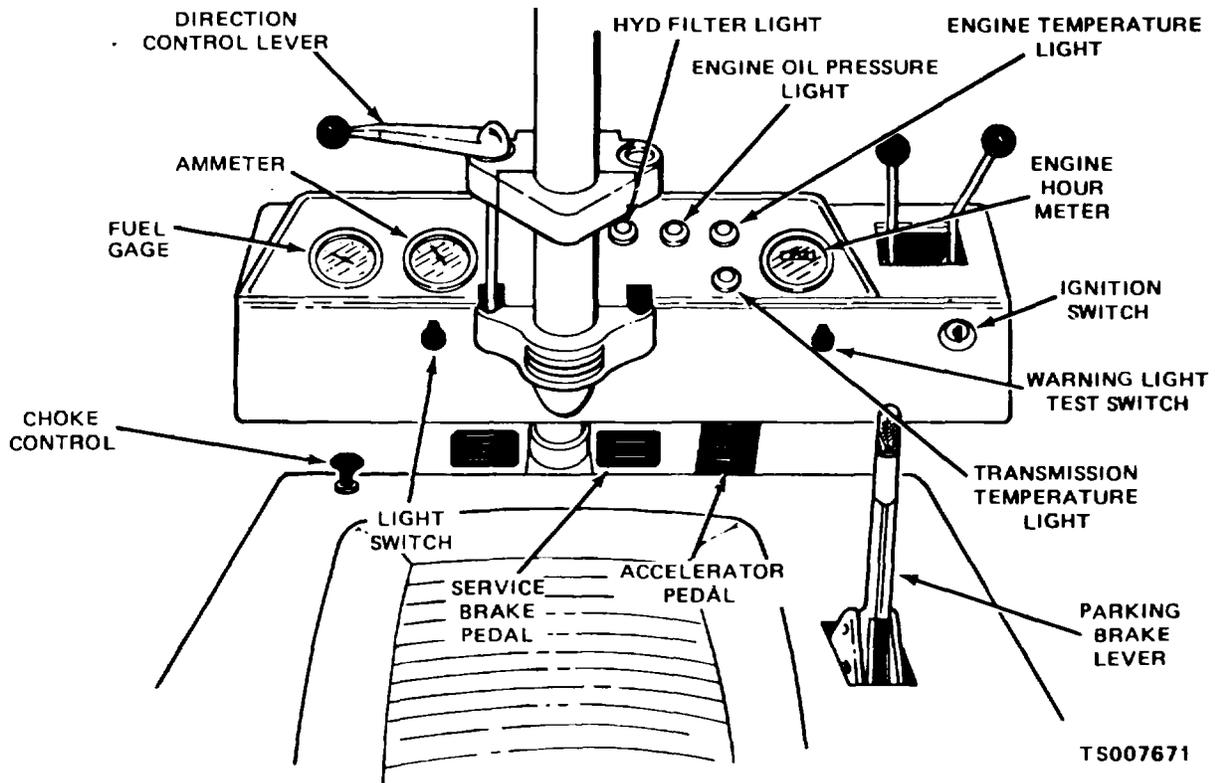

Figure 2-1. Driving Controls and Instruments
b. Starting. Refer to figure 2-1 and start the truck in the following manner:
- (1) Pull up on parking brake lever to make sure it is fully engaged.
(2) Check that direction control lever is in N (neutral) position.
(3) If engine is cold, pull choke control fully out.
(4) Press and hold accelerator pedal one-third of way to floor.
(5) Turn starter and ignition switch fully clockwise to START. Hold until engine starts, then release.
(6) Hold accelerator at one-third application, allowing engine to warm up at fast idle.